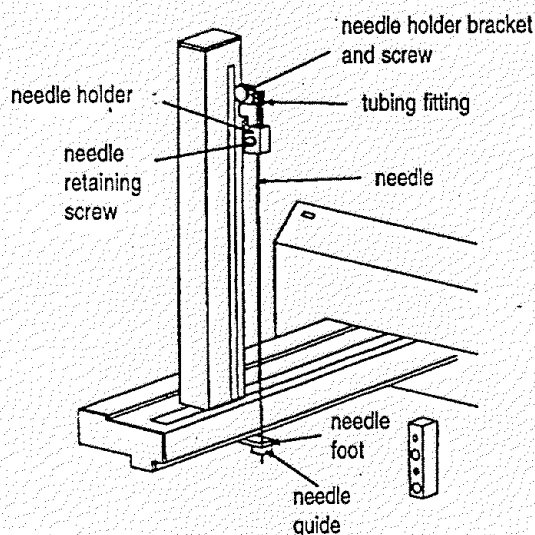

Figure 4-6 Installing the Needle
6. Use the supplied screws to secure the vertical arm to the horizontal slider. The screws insert into the bottom of the mounting holes in the horizontal slider. You may need to move the vertical arm back and forth slightly to align its mounting holes with those in the horizontal slider. (See *Figure 4-6.*)
Locate the accessory packages containing the needle and the needle holder/guide kit. When installing the needle, refer to *Figure 4-6* for placement of the needle, needle holder, and needle guide.